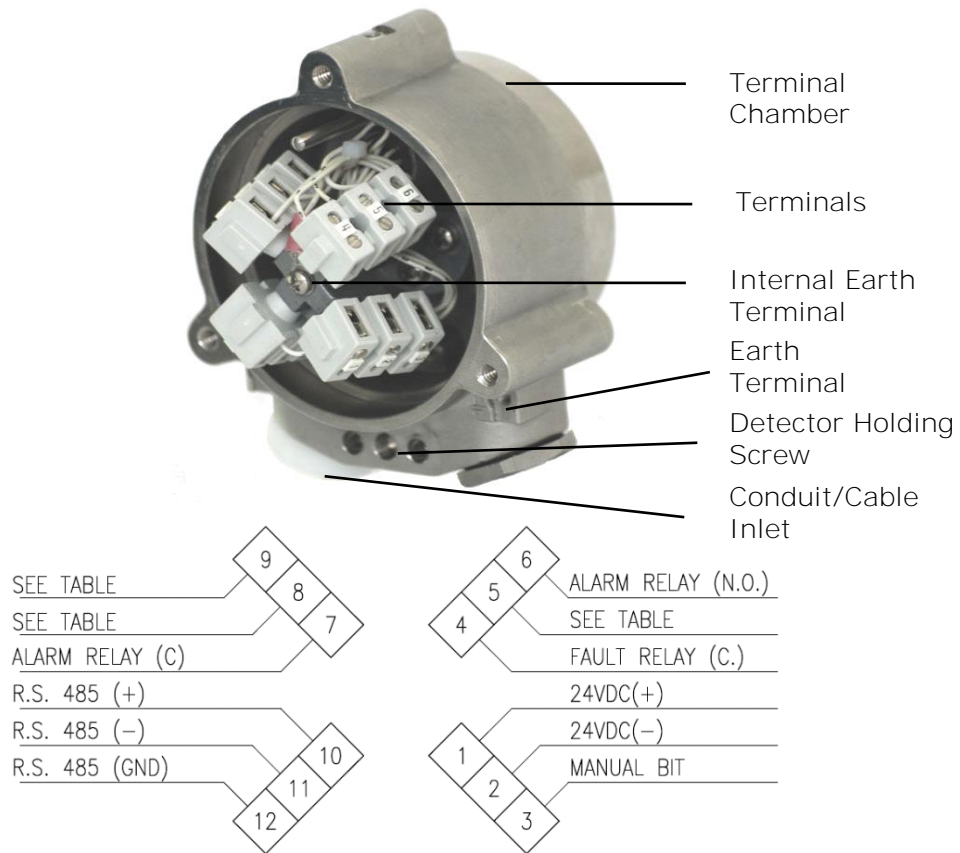

Figure 8: Detector with Cover Removed
This section describes how to connect the electric cabling to the detector (Figure 8).
- 5** Connect the wires to the required terminals on the Terminal Board according to the wiring diagram (Figure 8) and Table 15.
- 8** Check the wires for secure mechanical connection and press them neatly against the terminal to prevent them from interfering while closing the back cover (Figure 8).